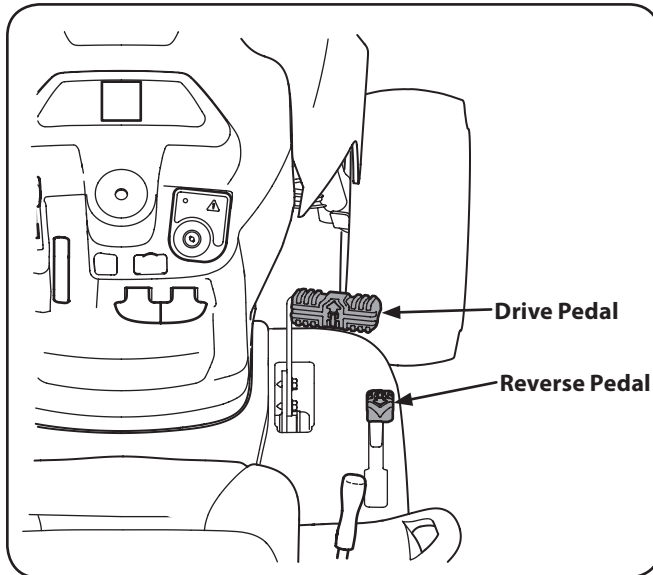

Figure 5-1
2. To travel FORWARD, slowly press the drive pedal forward until the desired speed is achieved. See Figure 5-1.
3. To travel in REVERSE, check that the area behind is clear then slowly depress the reverse pedal with the ball of your foot (NOT your heel) until the desired speed is achieved. See Figure 5-1.